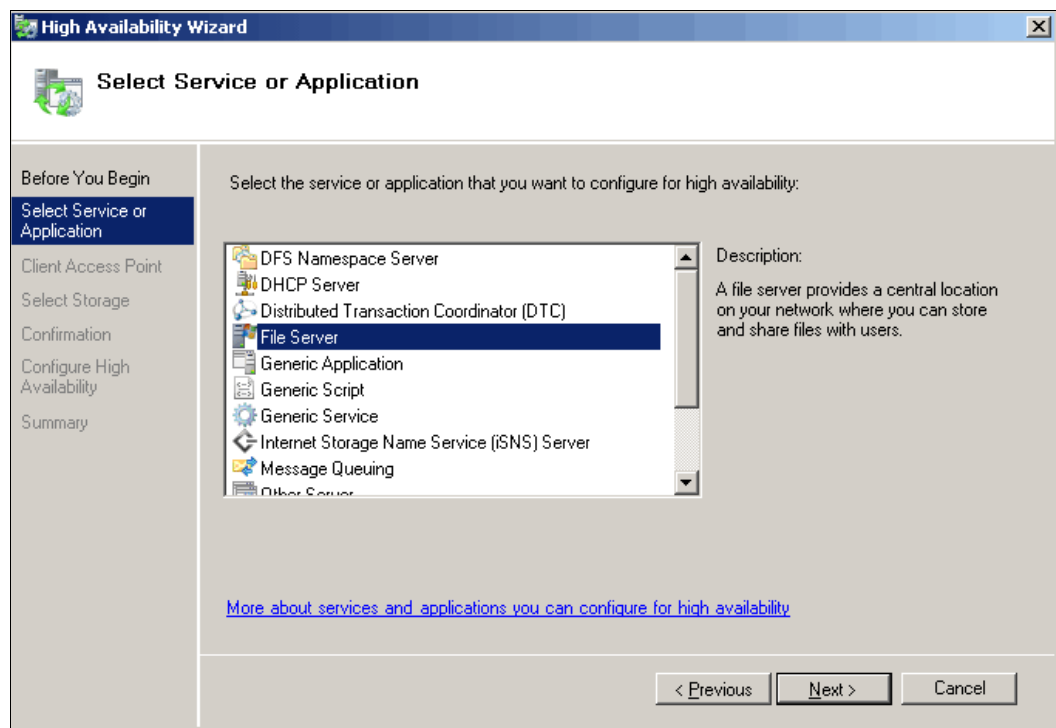

Figure 19-29 Select Service or Application: File Server
7. Select **File Server** as shown in Figure 19-29, and then click **Next**.